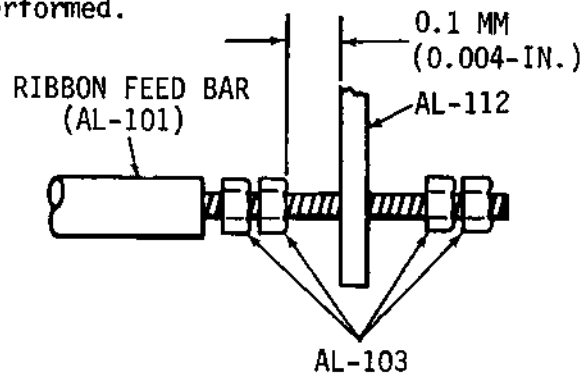
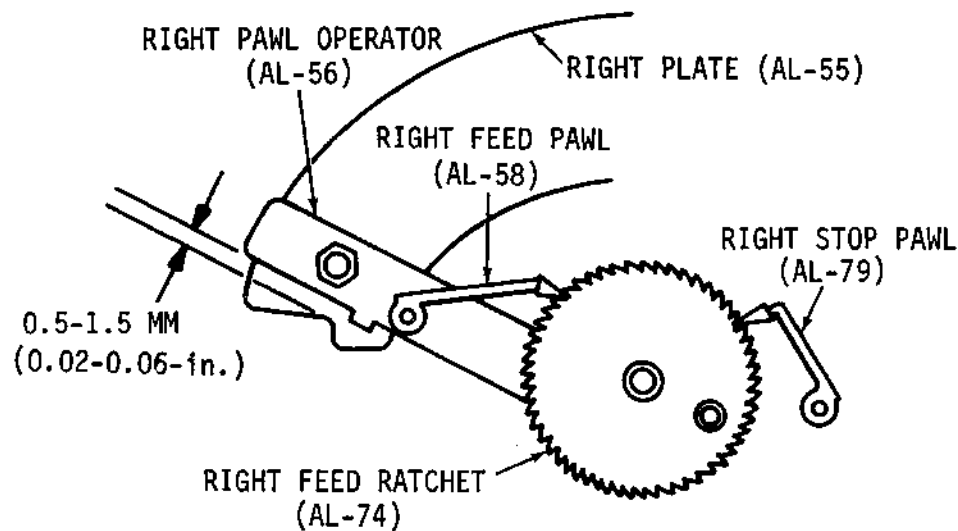

Figure 5-19. ADJUSTING NUTS FOR RIGHT PAWL OPERATOR MOVEMENT
Figure 5-20. RIGHT PAWL OPERATOR STARTING POSITION
b. Ribbon Feed Bar - Right Side (Fig. 5-19)
- (1) Loosen left nut (AL-103) on left side of ribbon pawl operator link (AL-112).
- (2) Maintain 0.1 mm (0.004-in.) gap between nut and right ribbon pawl operator link (AL-112).
- (3) Do not tighten nuts until step 4.b. has been performed.
- a. Set left side of right pawl operator (AL-56) at a distance of 0.5-1.5 mm (0.02-0.06-in.), as shown in Fig. 5-20).
- b. To adjust and maintain 0.5-1.5 mm (0.02-0.06-in.), between plate and operator, as shown in Fig. 5-20, adjust and tighten nuts (AL-103) referred to in Figure 5-19 (Note that right stop pawl (AL-79) and right feed pawl (AL-58) are fully engaged (Fig. 5-20).